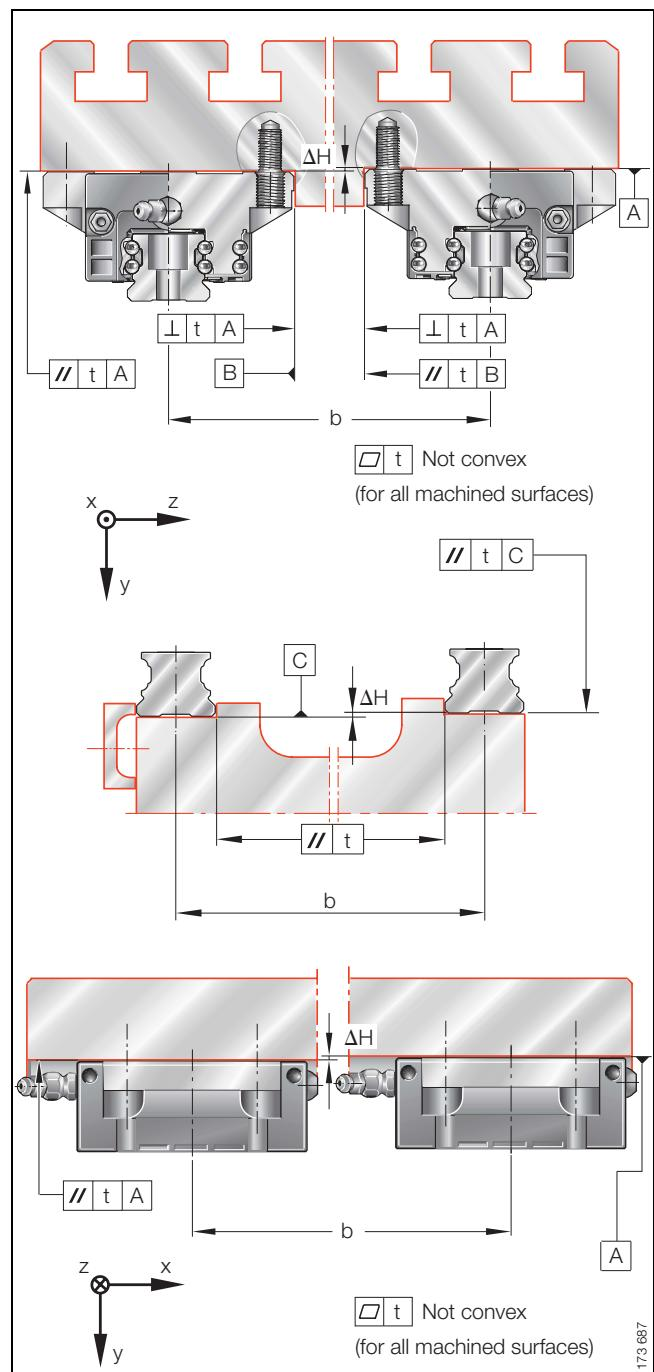

Figure 6 · Tolerances of mounting surfaces and parallelism of mounted guideways
- The tolerances in Figure 6 and Table 5 must be adhered to
The permissible values for  $\Delta H$  (Figure 6) are given by the formula below. If larger deviations are present, please consult the INA engineering service.
For guideways arranged parallel to each other, the parallelism value  $t$  given in Figure 6 and Table 5 should be adhered to.